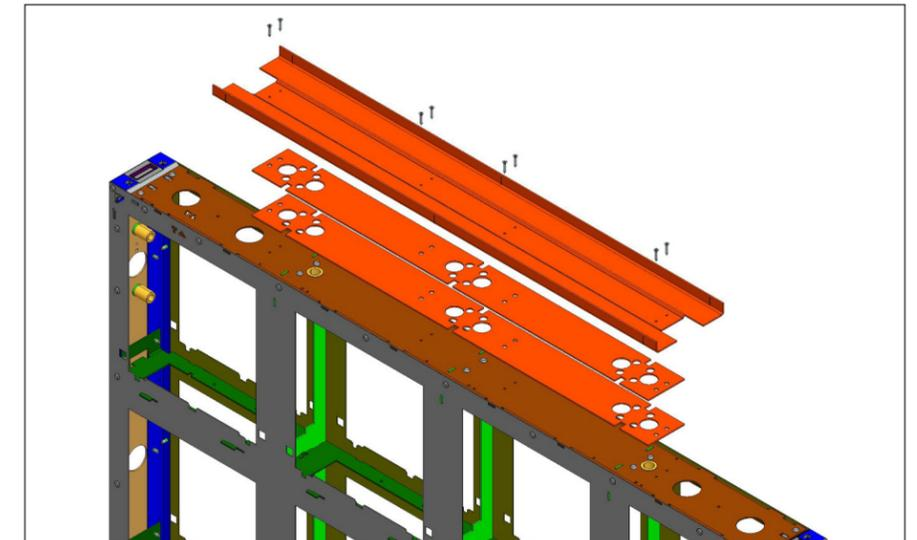

Figure 8: Top Shims & Top Spacer
2. Install the top shims and top spacer with the supplied Phillips flathead screws (Daktronics part number HC-1302). Refer to **Figure 8** for details.